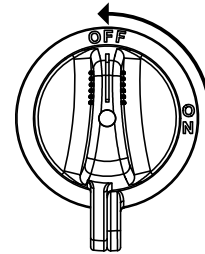

Figure 76. Battery Switch (OFF)
8. Place the **Battery switch** (Figure 76) in the **OFF** position.